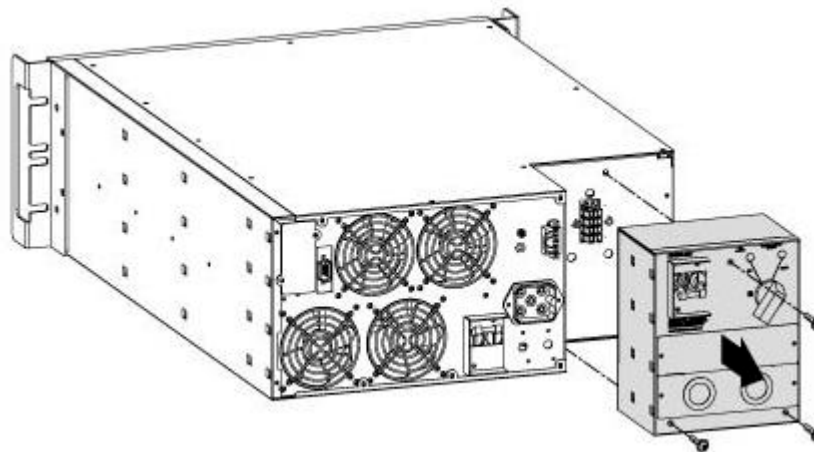

FIG 38 – PDU REMOVAL 6KVA UPS
4. On the 6kVA model, loosen the three mounting screws (FIG 38) on the installed PDU until the PDU can be removed from the UPS cabinet.